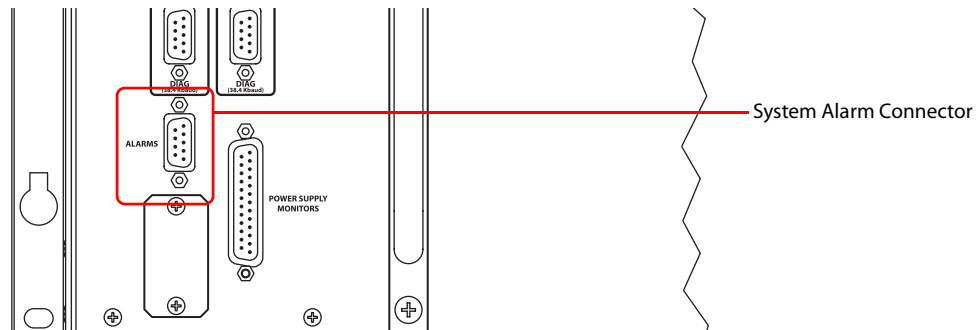

Figure 2-25. System Alarm Connection on Router (Rear View)
- 1 On the rear of the router, locate the ‘ALARMS’ connection, as shown in Figure 2-25.